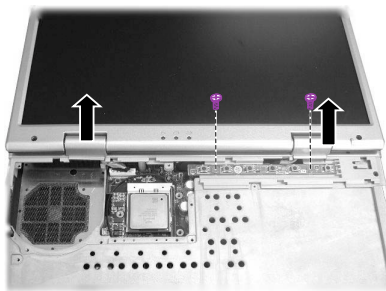

Figure 2-16 Remove the LCD hinge covers and button board
2. Remove the two hinge covers and remove two screws fastening the button board.(Figure 2-16)